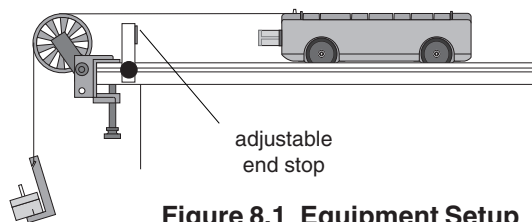

Figure 8.1 Equipment Setup
3. Attach the pulley to the end of the track as shown in Figure 8.1. Place the dynamics car on the track and attach a string to the hole in the end of the car and tie a mass hanger on the other end of the string. The string must be just long enough so the car hits the stopping block before the mass hanger reaches the floor.